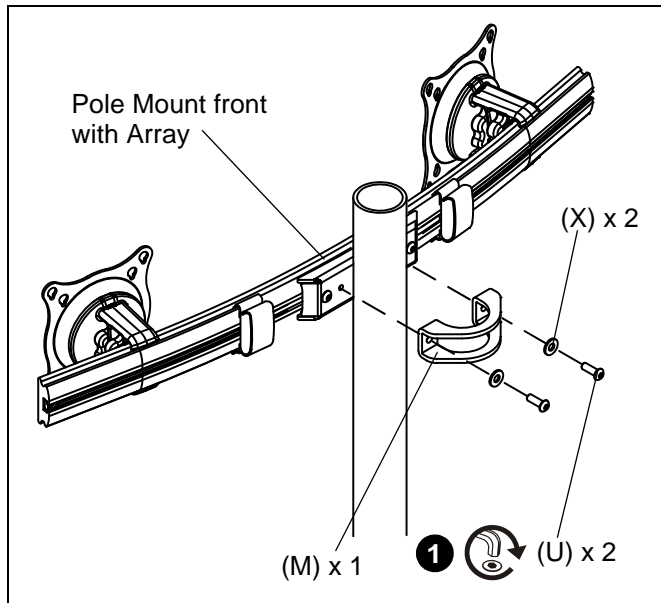

Figure 6
1. Assemble pole clamp back (M) to pole mount front using two washers (X) and two 1/4-20 x 3/4" button head cap screws (U) using a 5/32" hex key (J). (See Figure 6)
2. Secure pole mount back (M) to pole mount front and pole by tightening two button head cap screws (U) using a 5/32" hex key (J).